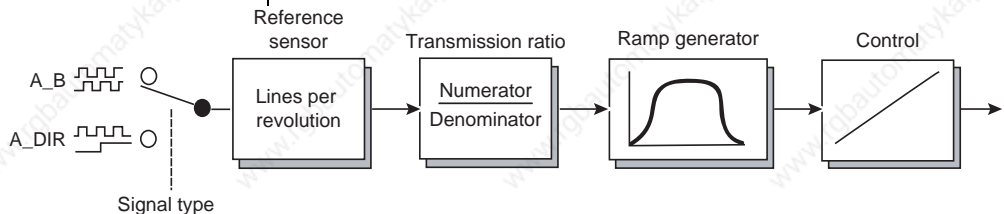

Fig. 6.24 Structure of setpoint preparation with reference sensor as speed setpoint source
For speed regulation with reference sensor setpoint source no preset solution is available. You should therefore select a preset solution, which, in any case, complies with the desired control location (e. g. terminal or field bus). Then select the setting "RDIG (4)" from the function mask "Setpoint/ramp - further settings", instead of the specified setpoint source. Fig. 6.24 shows the structure of the selected setpoint preparation.